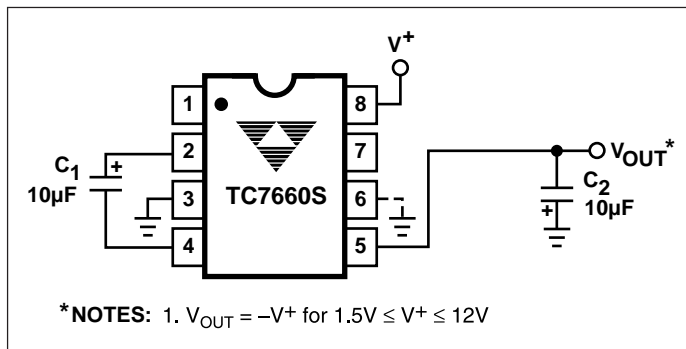
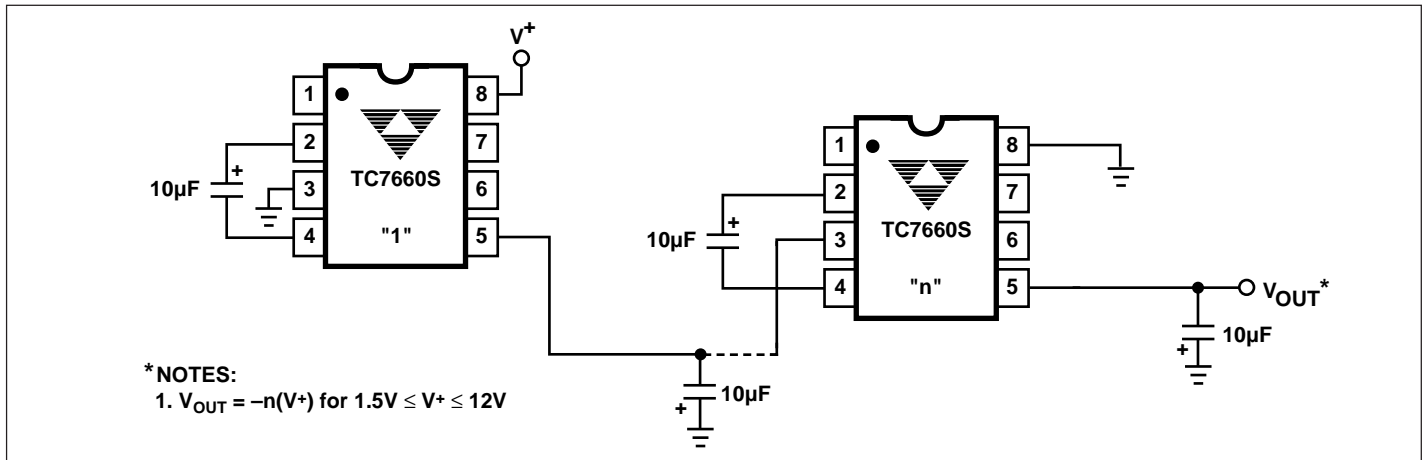
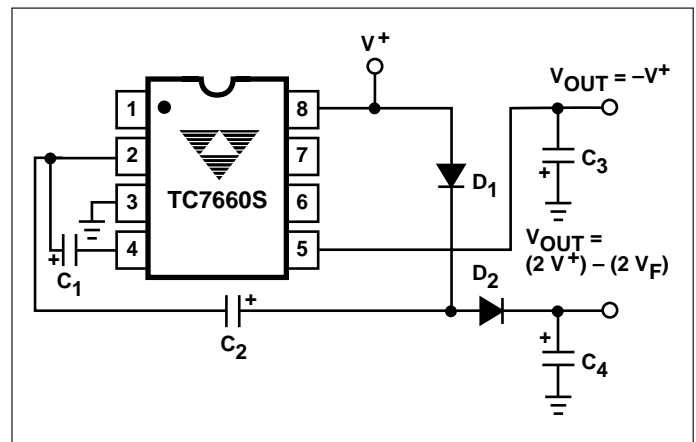
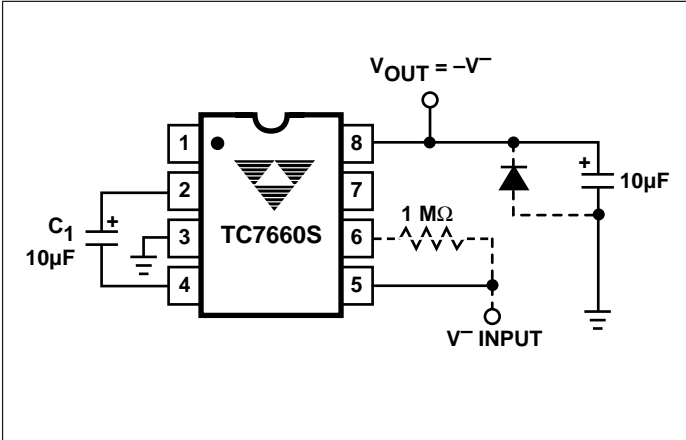

Figure 3. Simple Negative Converter
Figure 5. Increased Output Voltage by Cascading Devices
Figure 9. Combined Negative Converter and Positive Multiplier
Figure 10. Positive Voltage Multiplier
Figure 3 shows typical connections to provide a negative supply where a positive supply is available. A similar scheme may be employed for supply voltages anywhere in the operating range of +1.5V to +12V, keeping in mind that pin 6 (LV) is tied to the supply negative (GND) only for supply voltages below 3.5V.
The output characteristics of the circuit in Figure 3 are those of a nearly ideal voltage source in series with 70Ω . Thus, for a load current of $-10mA$ and a supply voltage of $+5V$, the output voltage would be $-4.3V$.
The TC7660S may be cascaded as shown (Figure 5) to produce larger negative multiplication of the initial supply voltage. However, due to the finite efficiency of each device, the practical limit is 10 devices for light loads. The output voltage is defined by:
Figure 9 combines the functions shown in Figures 3 and 8 to provide negative voltage conversion and positive voltage multiplication simultaneously. This approach would be, for example, suitable for generating +9V and -5V from an existing +5V supply. In this instance, capacitors C_1 and C_3 perform the pump and reservoir functions, respectively, for the generation of the negative voltage, while capacitors C_2 and C_4 are pump and reservoir, respectively, for the multiplied positive voltage. There is a penalty in this configuration which combines both functions, however, in that the source impedances of the generated supplies will be somewhat higher due to the finite impedance of the common charge pump driver at pin 2 of the device.
Since the switches that allow the charge pumping operation are bidirectional, the charge transfer can be performed backwards as easily as forwards. Figure 10 shows a TC7660S transforming -5V to +5V (or +5V to +10V, etc.). The only problem here is that the internal clock and switch-drive section will not operate until some positive voltage has been generated. An initial inefficient pump, as shown in Figure 9, could be used to start this circuit up, after which it
will bypass the other (D_1 and D_2 in Figure 9 would never turn on), or else the diode and resistor shown dotted in Figure 10 can be used to "force" the internal regulator on.
The same bidirectional characteristics used in Figure 10 can also be used to split a higher supply in half, as shown in Figure 11. The combined load will be evenly shared between the two sides. Once again, a high value resistor to the LV pin ensures start-up. Because the switches share the load in parallel, the output impedance is much lower than in the standard circuits, and higher currents can be drawn from the device. By using this circuit, and then the circuit of Figure 5, +15V can be converted (via +7.5V and -7.5V) to a nominal -15V, though with rather high series resistance ($\sim 250\Omega$).